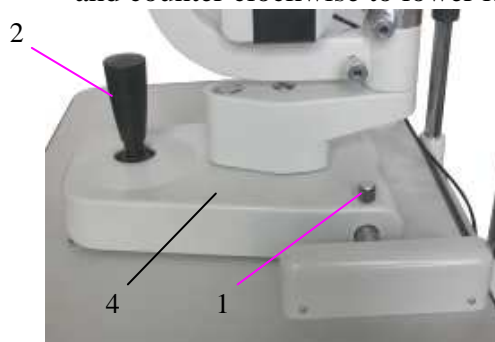

Fig.16
Keep the joystick (2) upright and move the base (4) to make the microscope move horizontally to aim at the object roughly (Fig.16).